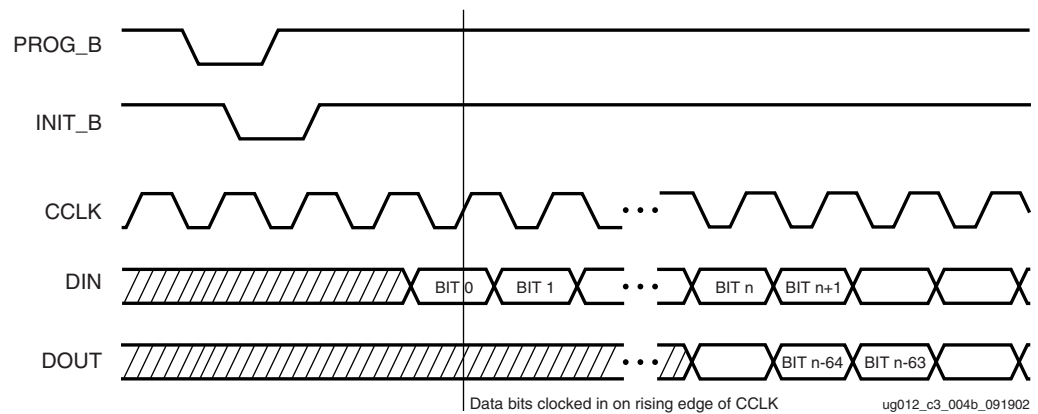

Figure 3-13: Serial Configuration Cloning Sequence
- For Slave configurations, a free running CCLK can be used, as shown in Figure 3-13.